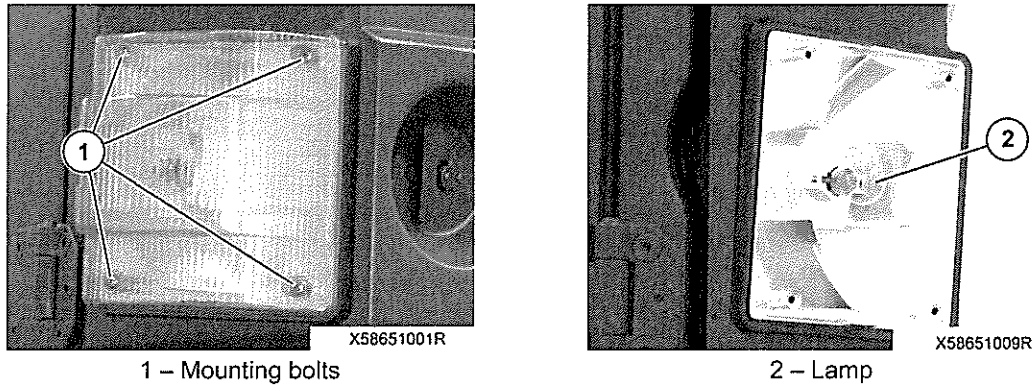

Fig 18 Replacing a front turn indicator lamp
- 57 Refer to Fig 18. To replace a front turn indicator lamp, proceed as follows: